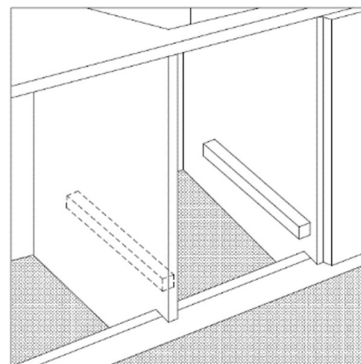

Figure 1
- Installing the oven so that it rests on two strips of wood is preferable (Figure 1)